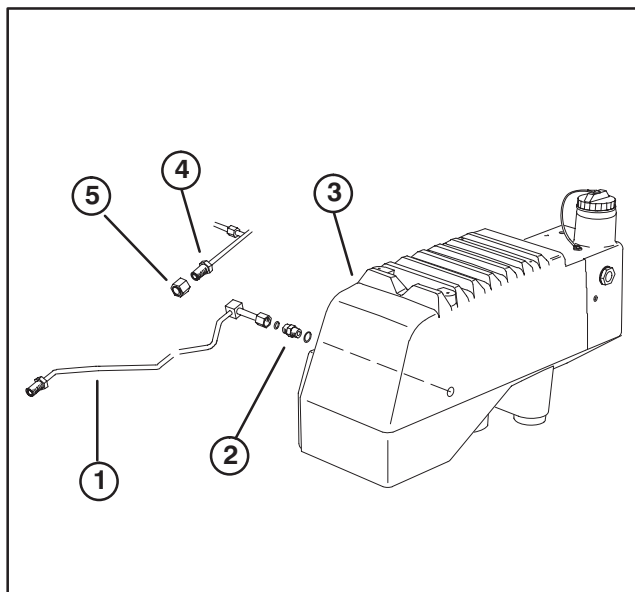

Figure 4
24. Install cap fitting on rear return line (Fig. 4).
25. Install new straight fitting to hydraulic tank (Fig. 4).